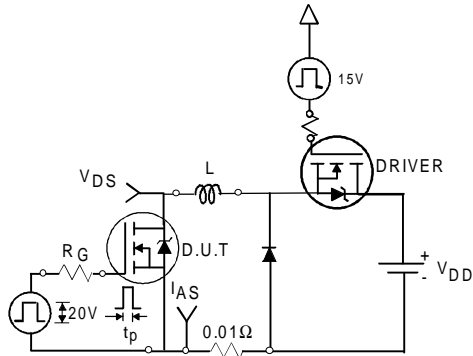

Fig 12a. Unclamped Inductive Test Circuit
- ③ $I_{SD} \leq 125A$, $di/dt \leq 260A/\mu s$, $V_{DD} \leq V_{(BR)DSS}$, $T_J \leq 175^\circ\text{C}$
- ④ Pulse width $\leq 400\mu s$; duty cycle $\leq 2\%$.
- ⑤ $C_{oss \text{ eff.}}$ is a fixed capacitance that gives the same charging time as C_{oss} while V_{DS} is rising from 0 to 80% V_{DSS} .
- ⑥ Calculated continuous current based on maximum allowable junction temperature. Package limitation current is 90A.
- ⑦ Limited by T_{Jmax} , see Fig.12a, 12b, 15, 16 for typical repetitive avalanche performance.
3. Equation below based on circuit and waveforms shown in Figures 12a, 12b.